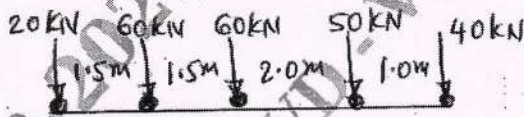

Fig. Q9 (b)
- b. A series of wheel loads crosses over a girder of span 15 m from left to right with 40 kN load leading as shown in Fig. Q9 (b). Determine maximum BM and SF at a section 4 m from left support. (12 Marks)